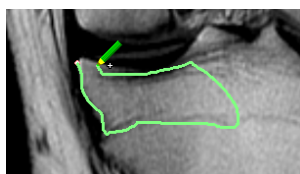

Figure 248 – Drawing a contour with the Freehand tool
4. Press and hold down the left mouse button to draw the contour (see Figure 248).